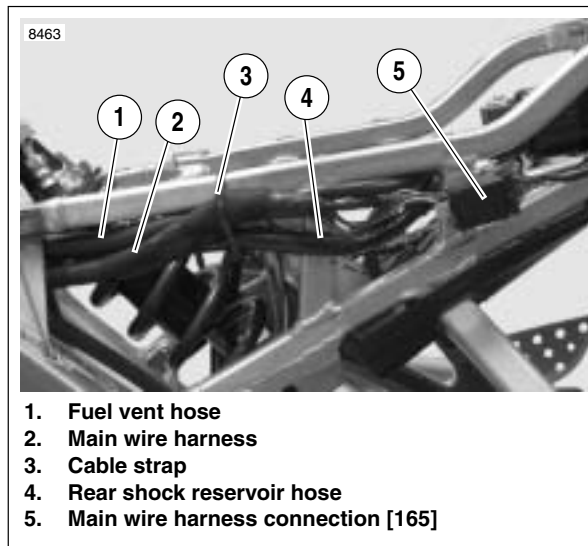

Figure 7-84. Left Side Subframe Hose and Wire Routing
6. See Figure 7-84. Separate exhaust actuator harness connector [165] (2) at main harness.